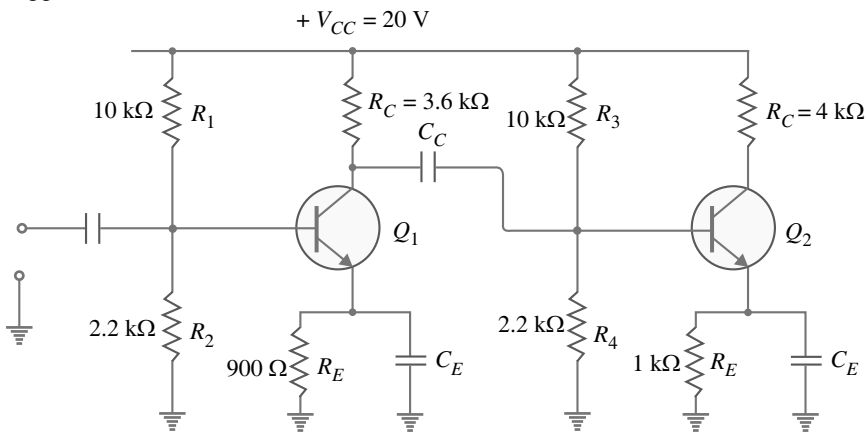

Fig. 9.21
**Example 9.22.** Fig. 9.21 shows a 2-stage RC coupled amplifier. What is the biasing potential for the second stage? If the coupling capacitor  $C_C$  is replaced by a wire, what would happen to the circuit?
**Solution.** Referring to Fig. 9.21, we have,